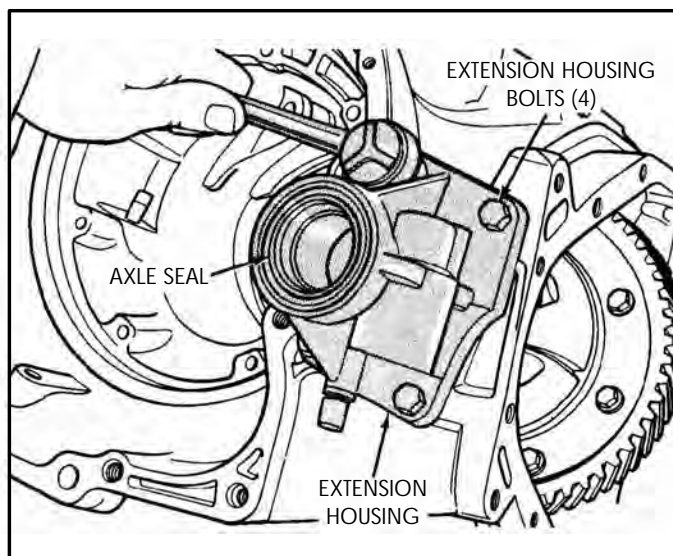

Figure 140
24. Remove the four extension housing bolts that retain the extension housing (See Figure 140).